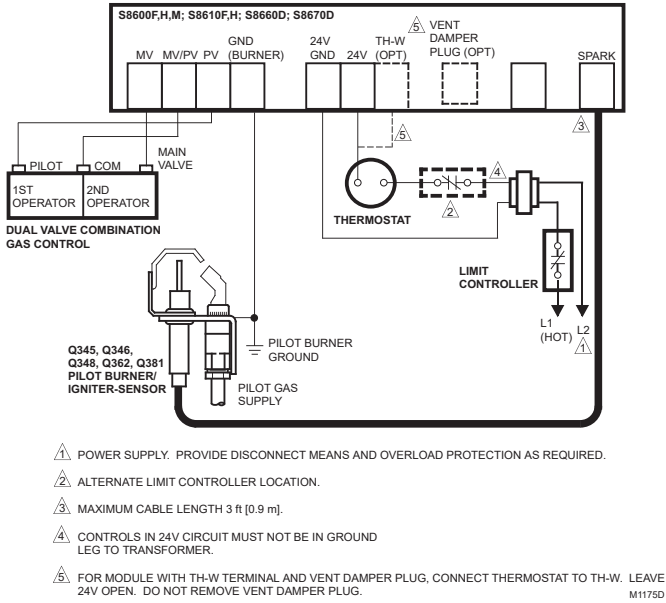

Fig. 1. S8600F,H,M; S8610F,H; S8660D; S8670D Connections in a Heating System with an Atmospheric Burner.
1. Connect remaining system components to the ignition module terminals as shown in the appropriate wiring diagram, Figures 1 through 10.
2. Fig. 1 is a basic circuit for a heating only atmospheric burner with S8600F,H,M S8660D or S8670D.